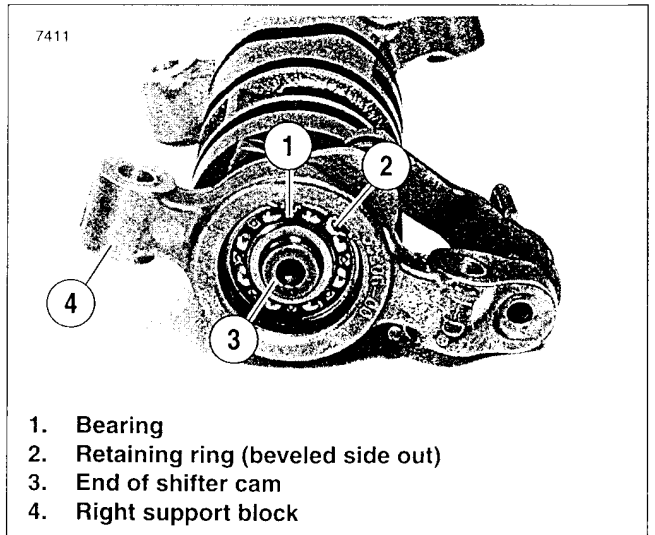

Figure 7-8. Right Support Block
- c. Place assembly on shifter cam and install a **new** small retaining ring (2).
- d. See Figure 7-8. Place a bearing (1) inside right support block by pressing on the side of the bearing with letters stamped on it. This side should face out. Secure bearing by installing a **new** retaining ring (2) with the beveled side facing out. Slip right support block over shifter cam.